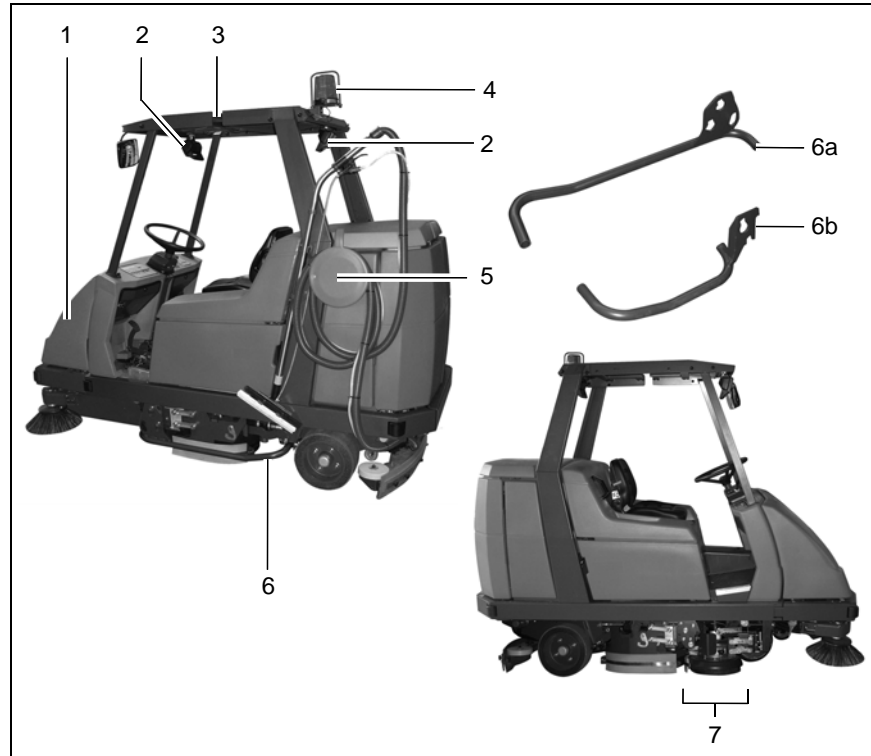

Fig. 16
3.1.4 Pre-sweep/Vacuum unit option (Fig. 16/1)
- **Pre-sweep/Vacuum unit (Fig. 16/1)** (7581)
- **Working lights (Fig. 16/2)** (7584.02)
- **Cab safety roof (Fig. 16/3)** (7582)
- **Flashing beacon (Fig. 16/4)** (7585.02 Assembly on cab safety roof)
- **Spraying/Vacuumping tool (Fig. 16/5)**
- **Hand-held vacuum cleaner (Fig. 16/5)**
- **Side collision protection (Fig. 16/6)**
- **Side scrubbing unit (Fig. 16/7)** (7586.02)